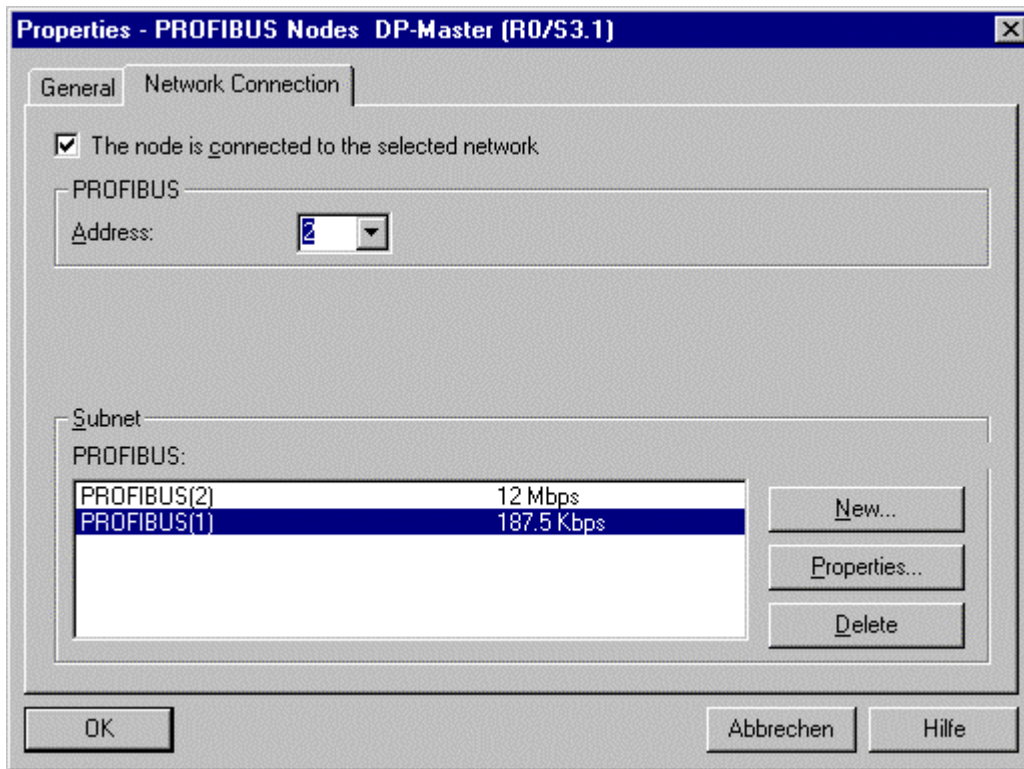

Figure 1
- Configure the DP master system (e.g. CPU 414-2 DP) and set the user address of the DP master to 2, with a transfer rate of 187.5 Kbits/s (Figure 1)